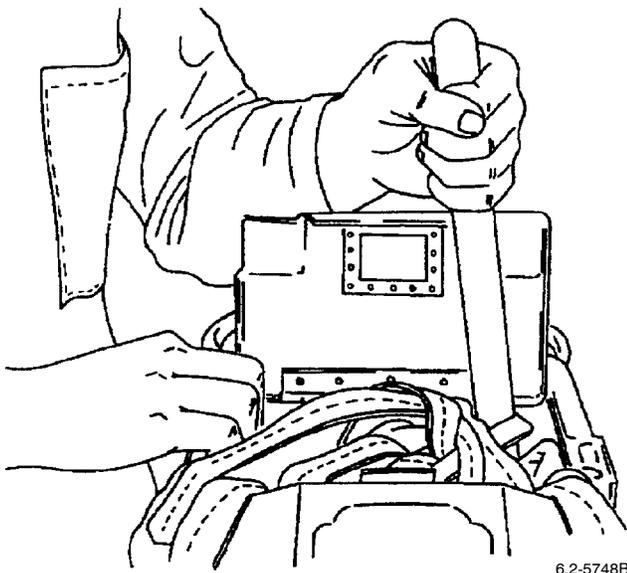

Figure 7. Press Canopy Straight Down
i. Packer shall press canopy straight down into container, with apex positioned on top, in center. Tuck canopy into corners of container using a 1-in. diameter round end dowel (Figure 7).